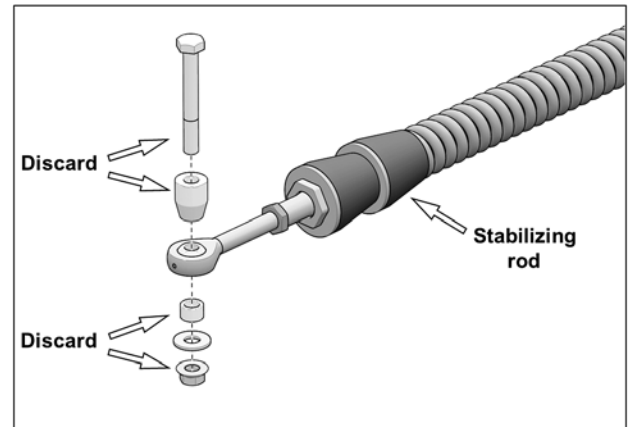

Fig. 3
4. Remove and discard bolts, bushings, and nuts from rear stabilizing rod ends. Keep washers for use in step 11. See Fig. 3.